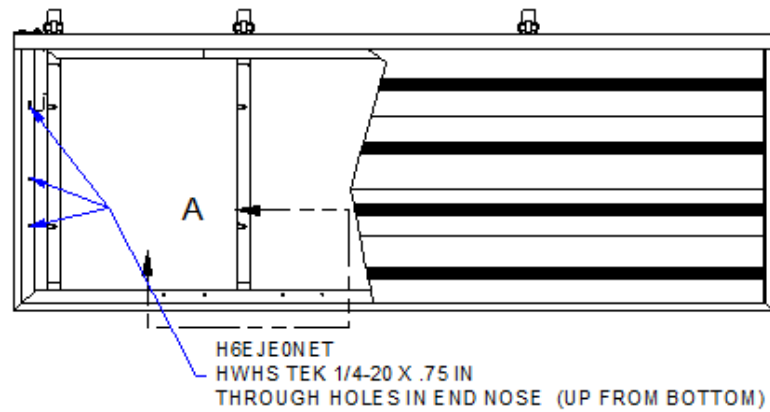

Figure 6.7.3c: Panel Deck Screw Locations
**Step 4:** Screw down aluminum deck planks to deck supports, nose, and post cantilvers. (Figure 6.7.3c,d,e)